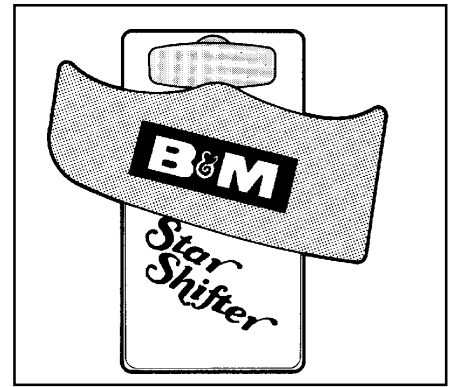
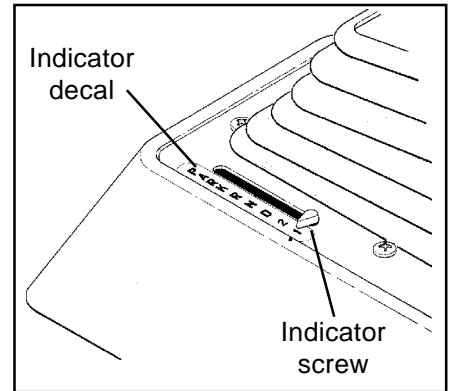
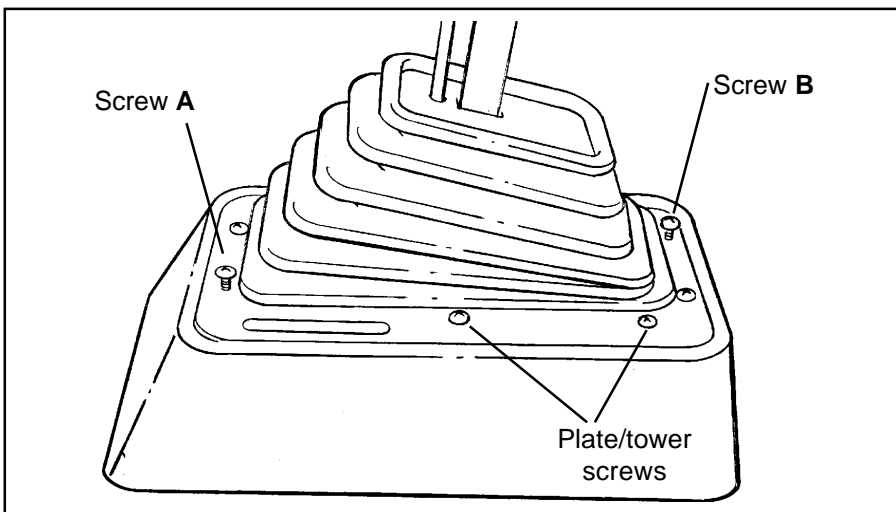

Figure 9
Figure 10
Figure 8
**STEP 27.** Install the chrome boot cover plate in position over the boot. Install the seven cover plate/tower self tapping screws through the plate, boot and tower (See Figure 8). Do not install the screws in locations A and B at this time. Do not overtighten or you will distort the cover plate.
**STEP 28.** Apply the StarShifter decal to the plate on the shifter stick (See Figure 9). Install the boot/tower assembly in place over the shifter mechanism. Slip the boot over the plate on the shifter stick so the plate fits into the grooves inside of the boot. Align the tower and install the two self-tapping screws into locations A and B (See Figure 8). Tighten the screws
**STEP 29.** Install the indicator screw through the slot in the boot cover plate and thread into the plastic traveler under the slot. Tighten until snug and align so it is pointing away from the boot and the square with the slot (See Figure 10). Place the Shifter in first (Low gear position). To find the first gear, lift the trigger and pull the lever all the way back. The lever will stop in first gear. The indicator screw will be at the back of the slot. You must be sure that the stick is all the way back (forward pressure on stick will move shifter out of first gear). Position the indicator decal left of the indicator screw on the chrome boot cover plate. Align 1 on the indicator decal with the indicator screw and press tape in place (See Figure 9). (Note the indicator tape is not centered with the slot.)